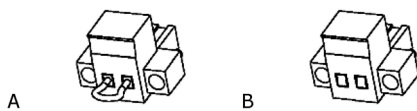

Fig. 25. Connector for the external EPO.
- Either by removing the female connector of the socket where it is inserted. This connector has a cable connected as a bridge that closes the circuit (see Fig. 25-A).
- Or by activating the unit's external button, which belongs to the user and is installed between the connector terminals (see Fig. 25-B). The connection on the button must be in the normally closed (NC) contact, so the circuit will open when it is activated.